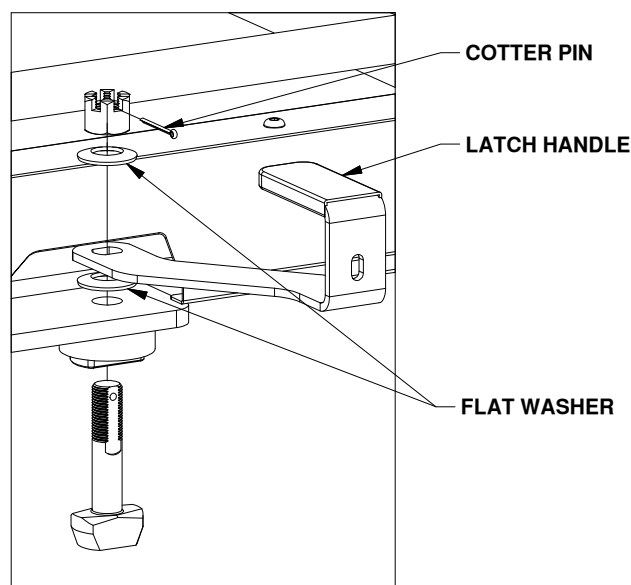

Figure B3: List of latch parts.
- Adjust the tension in the latch handle**, for parts list and visual guide refer to Figures B3 and B4.